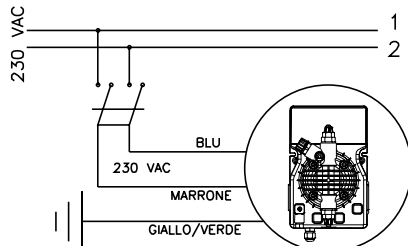

Fig. 4
1. **Disconnect the pins from the mains or by means of a two poles switch with 3 mm minimum distance between the contacts. (Fig. 4).**
1. Disconnect the pins from the mains or by means of a two poles switch with 3 mm minimum distance between the contacts. (Fig. 4).
- b. - Carefully observe the regulations in force in the various countries as regards electrical installations (Fig.4). When the supply cable is devoid of a plug, the equipment should be connected to the supply mains by means of a single-pole circuit breaker having a minimum distance of 3 mm between the contacts. Before accessing any of the electrical parts, make sure that all the supply circuits are open.